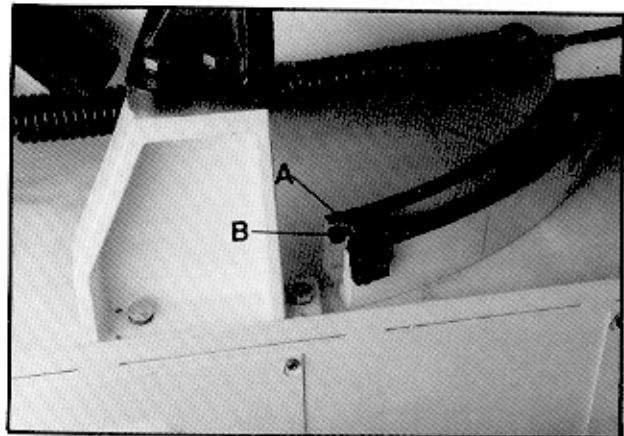

Fig. 15
5. Loosen the lock nut (A, Fig. 15).
6. Adjust the hex cap screw (B, Fig. 15) until the blade is at a 90° angle to the fixed vise jaw.
7. Tighten the lock nut (A, Fig. 15)